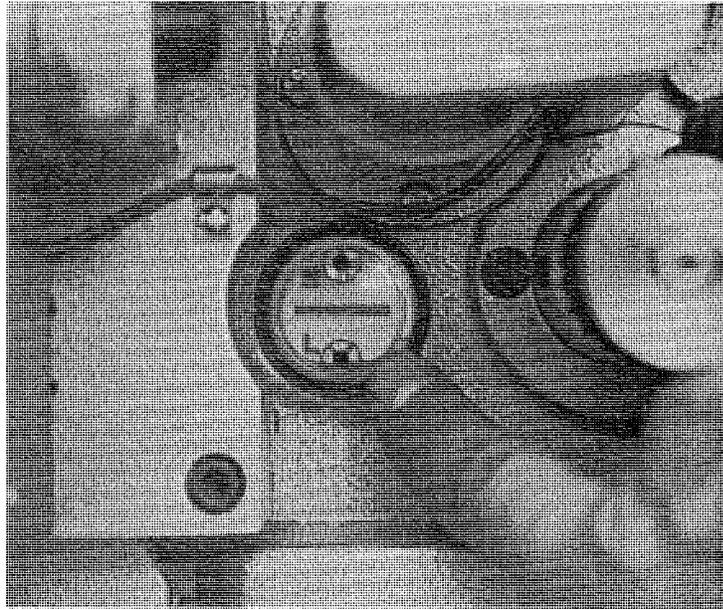
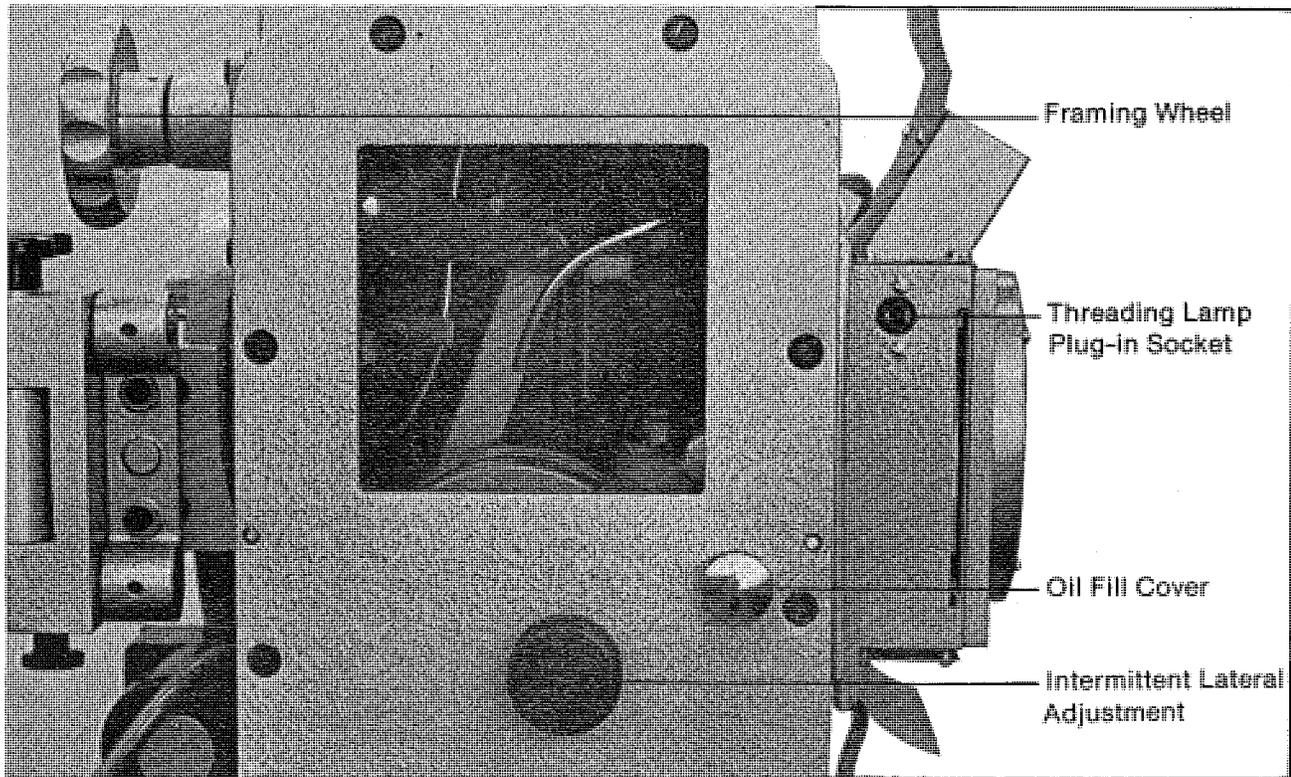

Fig. 2-1: Oil Gauge
Fig. 2-2: Back Side of Projector
- Fig. 2-1:** OIL GAUGE
- Fig. 2-2:** BACK SIDE OF PROJECTOR
- 2.2 Prior to operation, fill the TSR's oil reservoir with Tokiwa Projector Oil (TSR-ACC-1) or equivalent (see your dealer or contact ATP for oil specifications) so that the oil level reaches the Oil Gauge's (TSR-A-21) (Fig. 2-1) red "fill" line or slightly above. This is done by unscrewing the chrome-plated Oil Fill Cover (TSR-A-5) located on the back cover, (Fig. 2-2), and carefully pouring oil into the fill hole using any standard oil squirt can with a suitable nozzle. The oil capacity of the TSR's reservoir is approximately 325 cc. fluid ounces. When the reservoir is filled to the proper gauge level, replace the Oil Fill Cover and tighten it securely.
- 2.3 When the projector is operating, it is normal for the oil level to drop in the Oil Gauge as the oil is pumped from the reservoir and circulated throughout the mechanism. Proper oil circulation can be monitored by viewing the steady oil flow visible through the Oil Sight Window (refer to Fig. 2-1) on the rear cover.